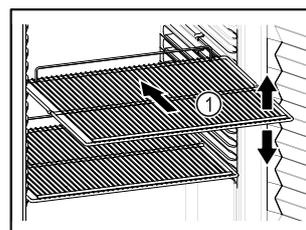

Fig. 39 Example illustration
- ❑ If there are adjustable shelves *Fig. 39 (1)*, position them as required.